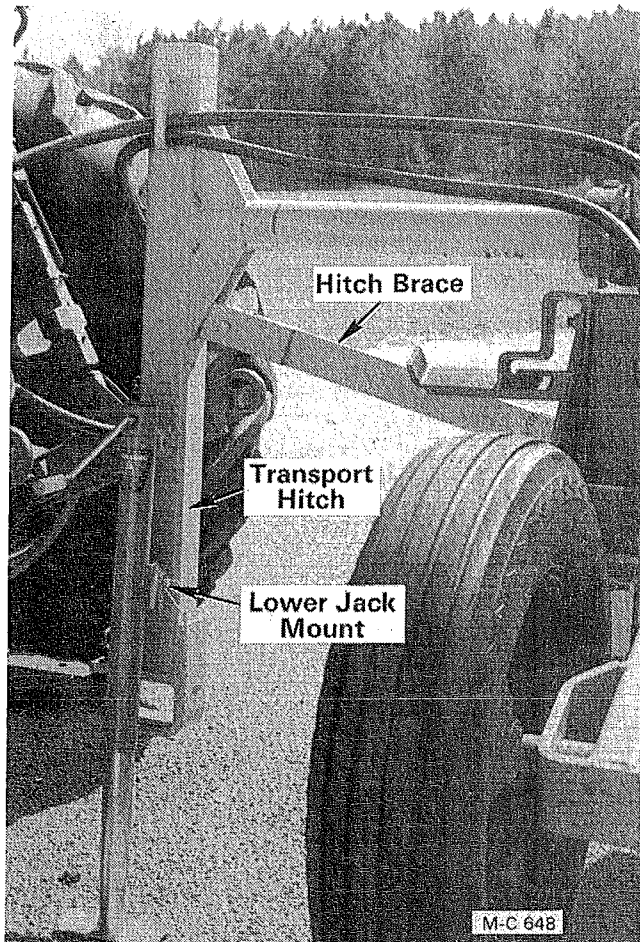

Figure 15
2. Move the jack on the end transport hitch down to the lower jack mount. Lower the jack to the ground to take the weight off of the tractor drawbar, see Figure 15.
7. Move the tractor to the transport hitch. Raise the transport hitch to the tractor drawbar height with the jack and connect the drawbar to the transport hitch, see Figure 15 page 11. Stop the tractor engine and apply the parking brake.